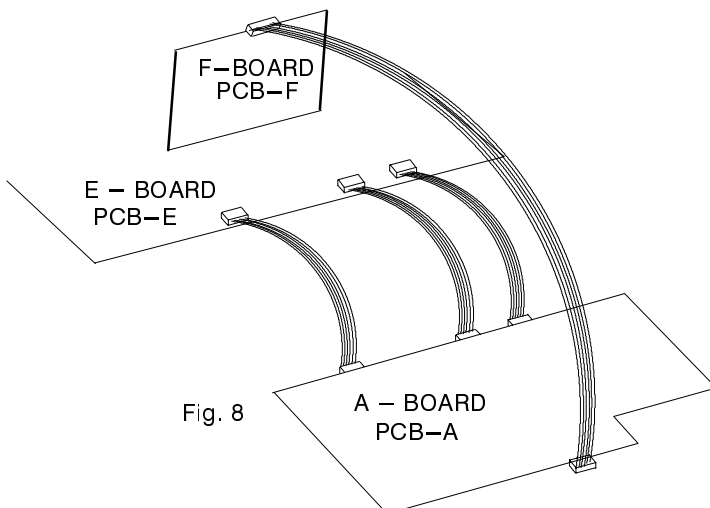

Fig. 8
1. Remove the A-board from the main chassis (E-board) 1. as shown in Fig.8.
5. Fit the 4 extension leads to the A-board making sure that the A-board does not touch the E-board (fig.8).
1. Retirer la PCB-A du châssis principal (PCB-E) tel qu'indiqué Fig.8.
5. Mettre en place les câbles d'extension (S'addurer que la PCB-A ne touche pas la PCB-E) (Fig.8).